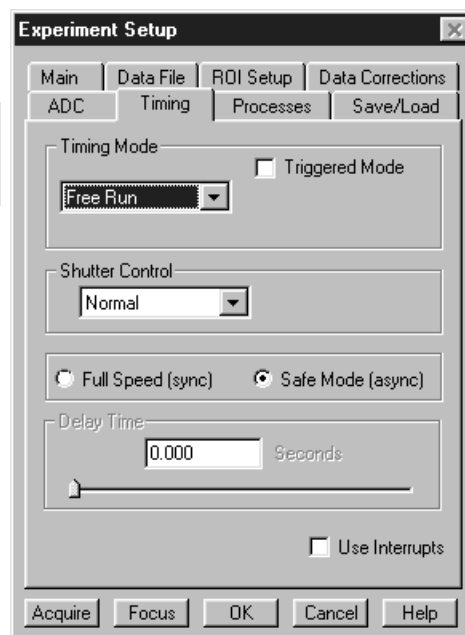

Figure 33. Experiment Setup dialog box
3. On the **Timing** tab page (Figure 33) set the following parameters.